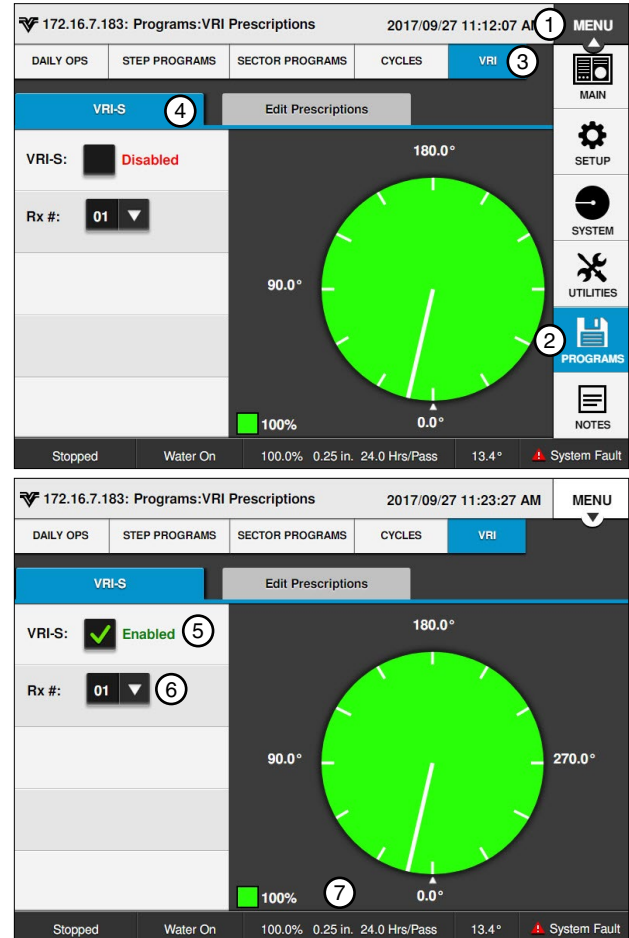

Figure 157-1 1. Menu
Push **Menu**, **Programs**, and **VRI** to display the VRI screen. Refer to Figure 157-1.
1. Push **Menu**, **Programs**, **VRI**, and **VRI-S** to display the VRI-S screen. Refer to Figure 157-1.